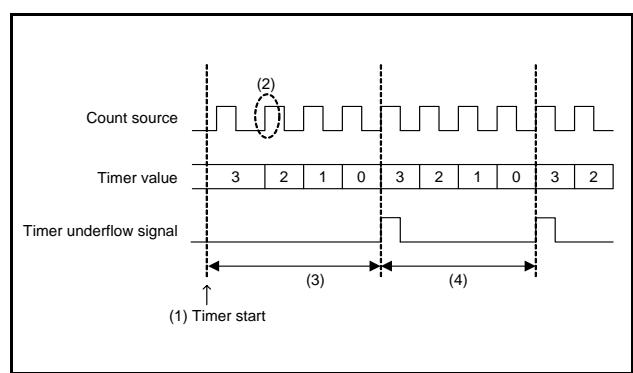

Fig 70. Timer count start timing and count time when operation starts (2)
Count starts from the first edge of the count source (2) in Figure 70 after timer 2 and LC operation start (1) in Figure 70.
Time to first underflow (3) in Figure 70 is different (for up to 1 period of the count source) from time among next underflow (4) in Figure 70 by the timing to start the timer and count source operations after count starts.